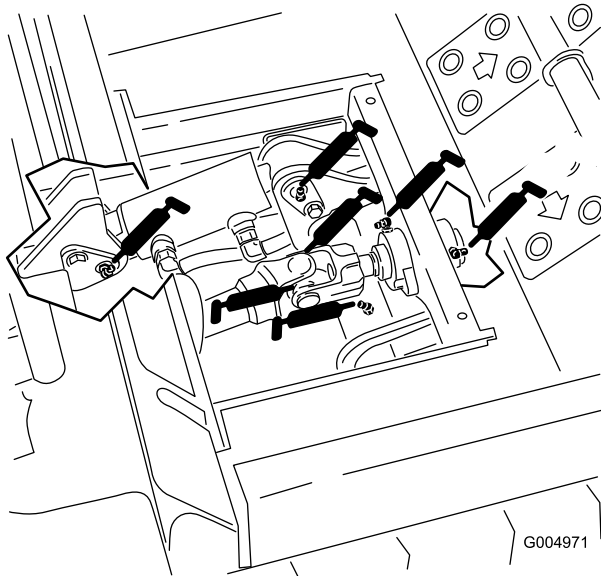

Figure 31
1. Bogie pivot assembly (2)
- PTO shaft bearings—2 (Figure 31)
- 2 PTO shaft universal joints—2 per joint (Figure 31, rear joint shown)
- Hydraulic cylinder pivot pins—2 (Figure 31)
- Lift arm pivot—1 (Figure 31)